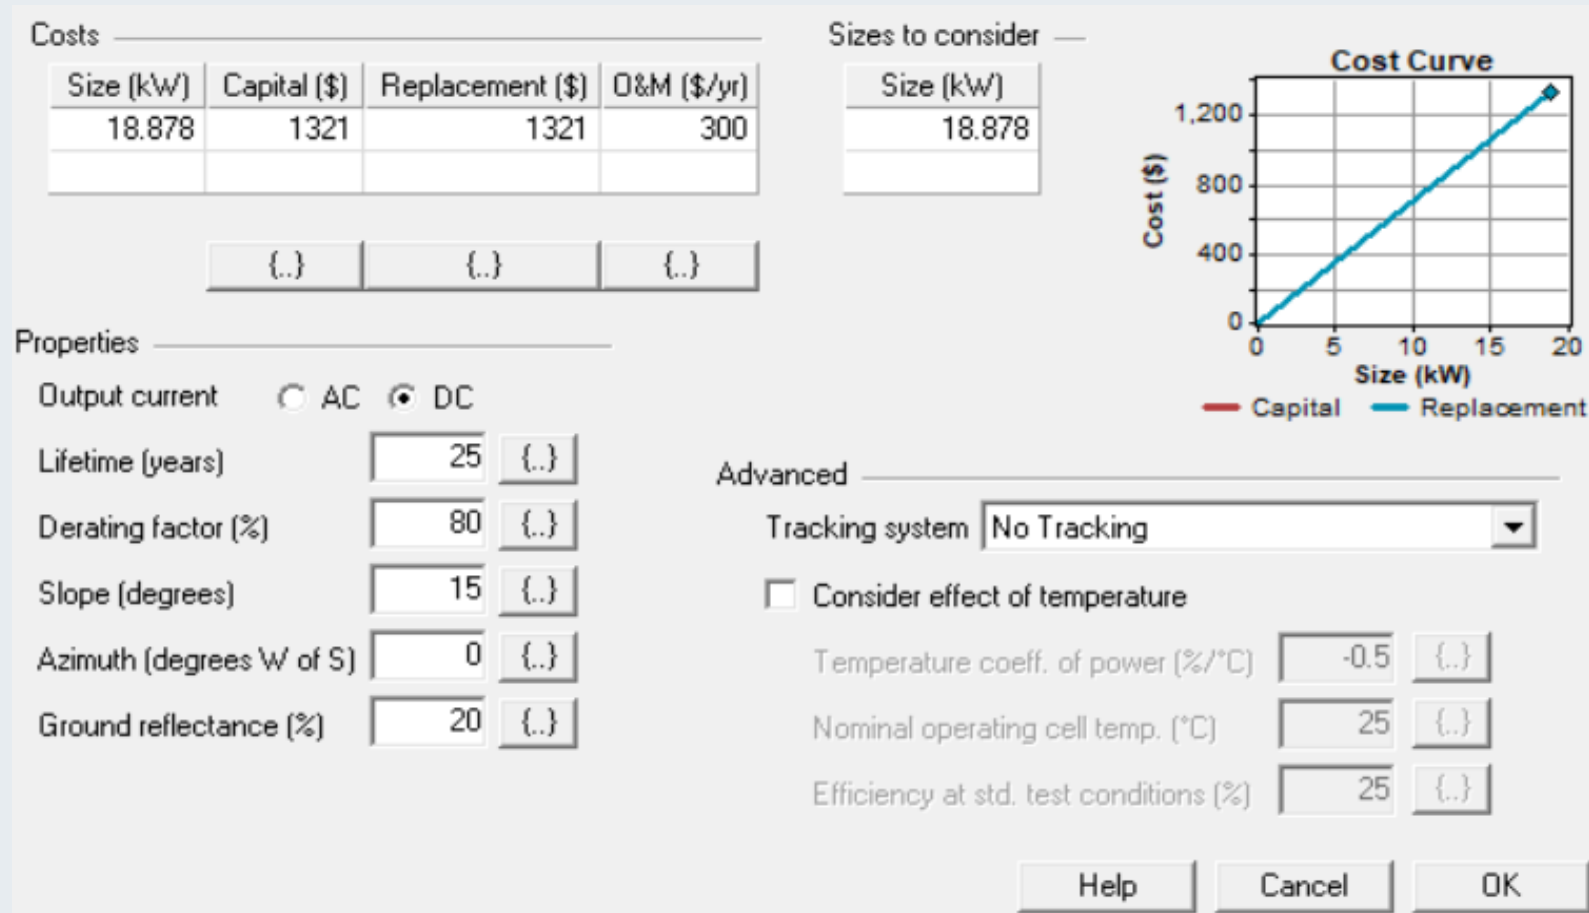

Figure 5. The input data for PV cost for the required demand.
- Therefore, the cost of designed maximum power for the required 18.878 kw is presented in Fig.5